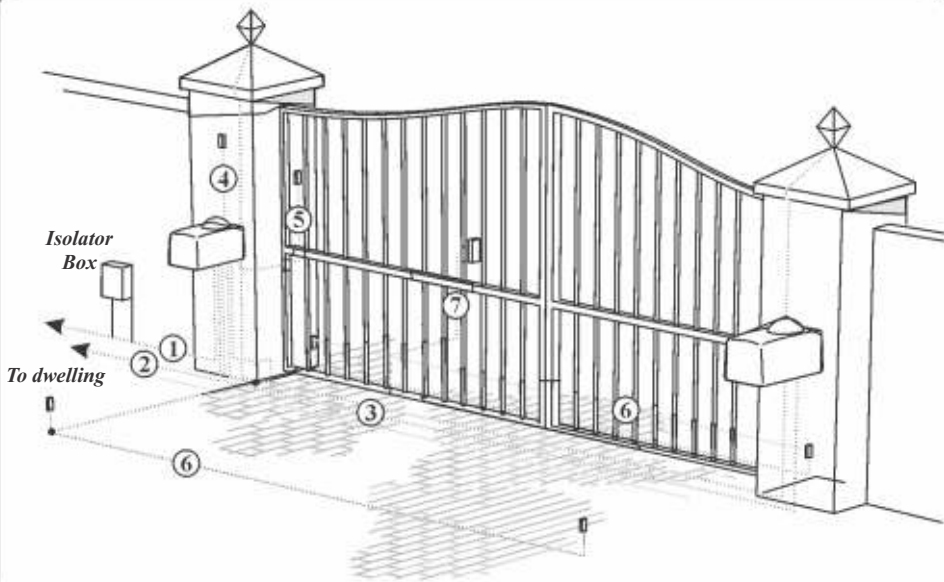

Figure 9 Cabling Requirements
- Route cables as determined in the cabling plan in Figure 9.